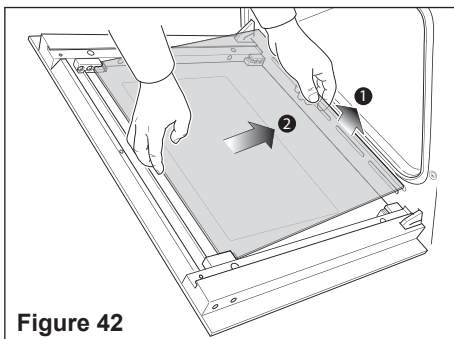

Figure 42
- Gently lift the bottom edge of the pane (arrow 1 in fig. 42) and remove it by pulling it out from the top clamps (arrow 2 in fig. 42).